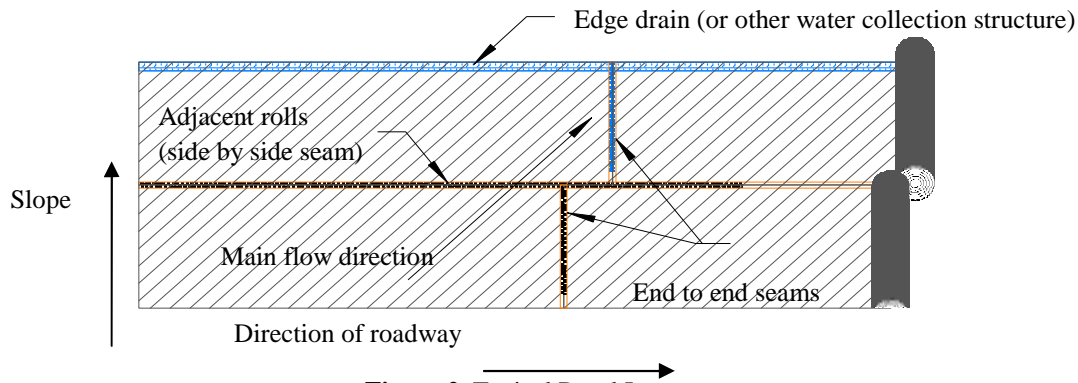

Figure 2. Typical Panel Layout
3. Whenever possible, RoaDrain T should run parallel to the direction of the roadway as shown in figure 2.